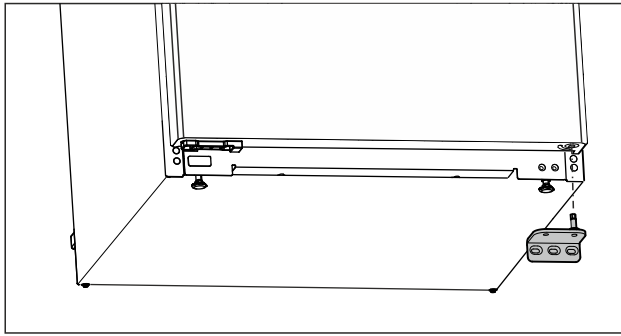

Fig. 12
- ▶ Remove the swap bearing block downwards. (see Fig. 12)